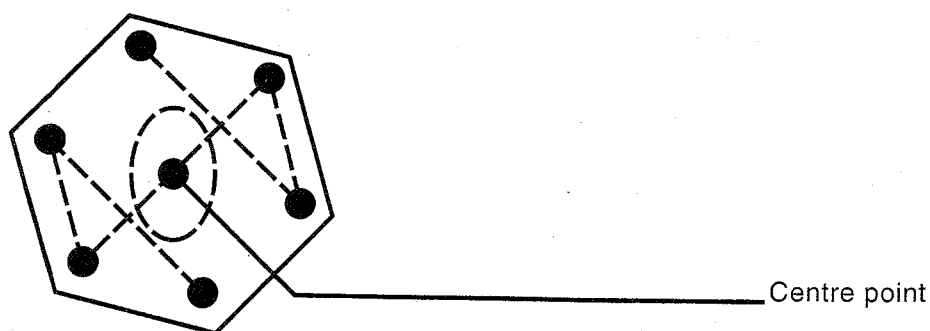

Fig 13 Matrix Vector Diagram.
1. The signal from AM/FM signal generator which is set at 5.5MHz with AF400Hz, 30% FM modulation, is applied to TP107 (between C127 and C128) through a 1K ohm resistor and a 1000pf capacitor as shown in Fig. 13.
- (d) Channel 2 (Y) is connected to TP207 (pin 22 of IC202) (B-Y)
- (e) Adjust amplitude balance VR202 until the centre points of the two wave forms bring together (Fig. 13)
- (f) Adjust T205 until all other points of two waveforms bring together (Fig.13)